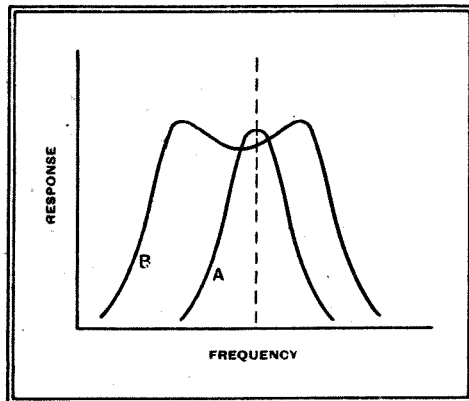

Fig. 18.—A mixture of capacity and mutual inductance coupling gives results between those with either alone.
As might be expected, the effect of increasing the coupling now lies between that obtained with either form of coupling alone. The results are sketched in Fig. 18. With greater-than-optimum coupling the curve (B) opens out into two peaks. Neither peak remains on the original frequency, as one does with top-end capacity coupling alone, nor do the peaks move outwards symmetrically, as with mutual inductance coupling. They move outwards, but more on one side of resonance than on the other.